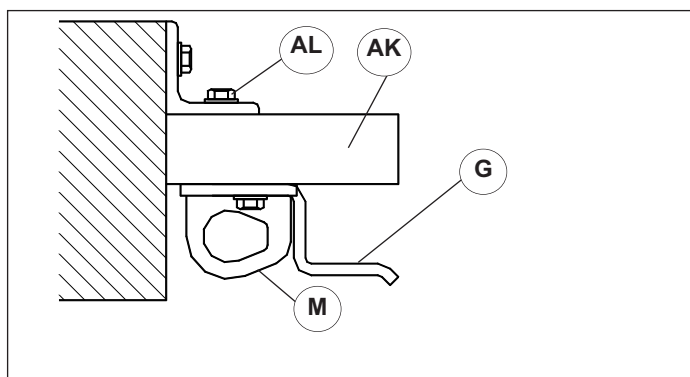

Figure 7.4
6. Install "Z" brackets and latch catch onto blocking as shown in, **Figure 7.4**.